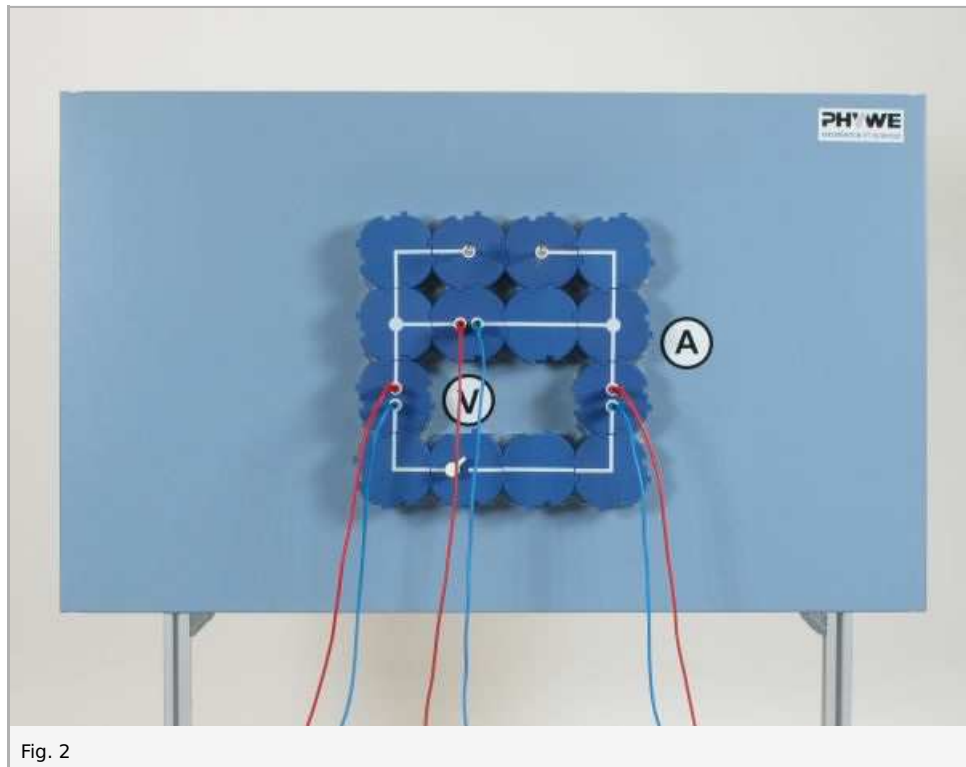

Fig. 2
- Change the circuit used in the first experiment by removing 4 of the straight connector modules (see Fig. 2).
- Heat the coil with a flame as uniformly as possible and observe the deflection of the ammeter (1).
- Carry out the same procedure with the iron and constantan wires, and note your observations (2), (3).